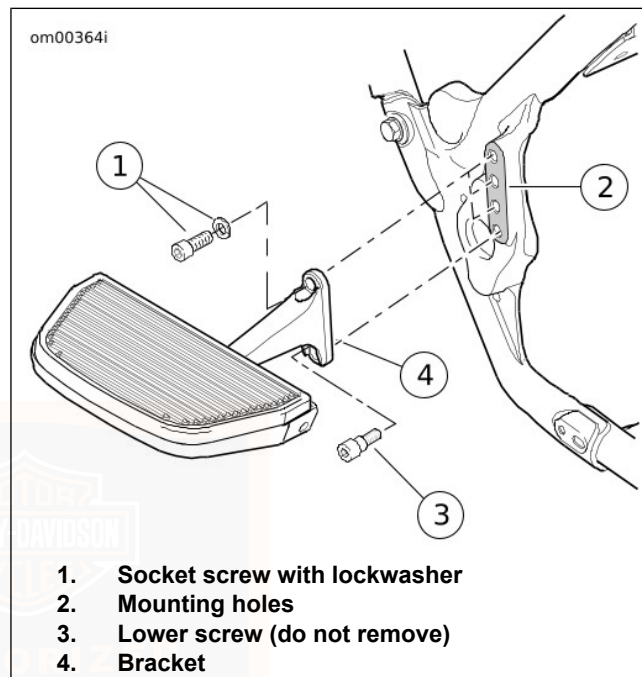

Figure 50. Passenger Footboard
1. See Figure 50. Remove socket screw with lockwasher (1) from top of footboard bracket (3).